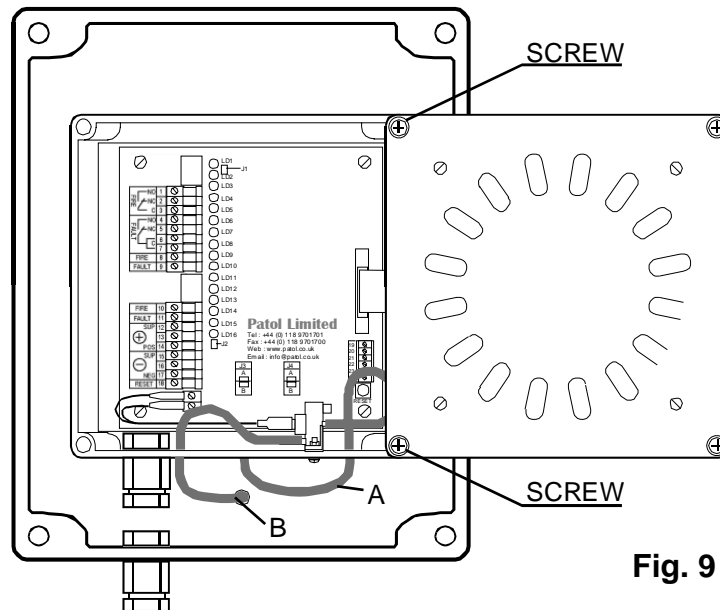

Fig. 9
4.3.1 With the outer lid removed locate the inner fascia 'offset' from the inner box so as to access the inner module and view the LEDs. Figure 9.
Refer to section 4.3.1 - figure 9